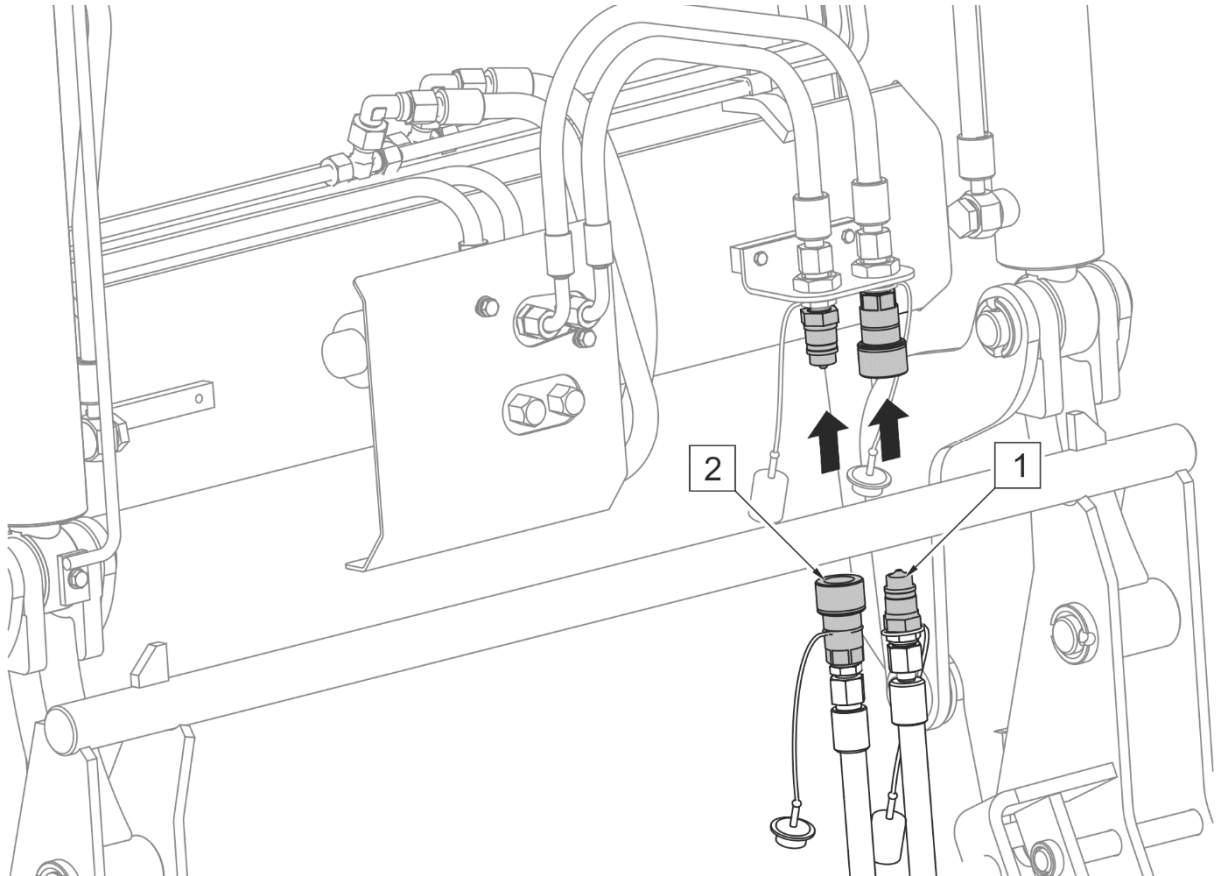

FIGURE 4.2 Connecting the hydraulic system
- connect the implement's hydraulic couplers to corresponding couplers in the front loader arm (FIGURE 4.2)